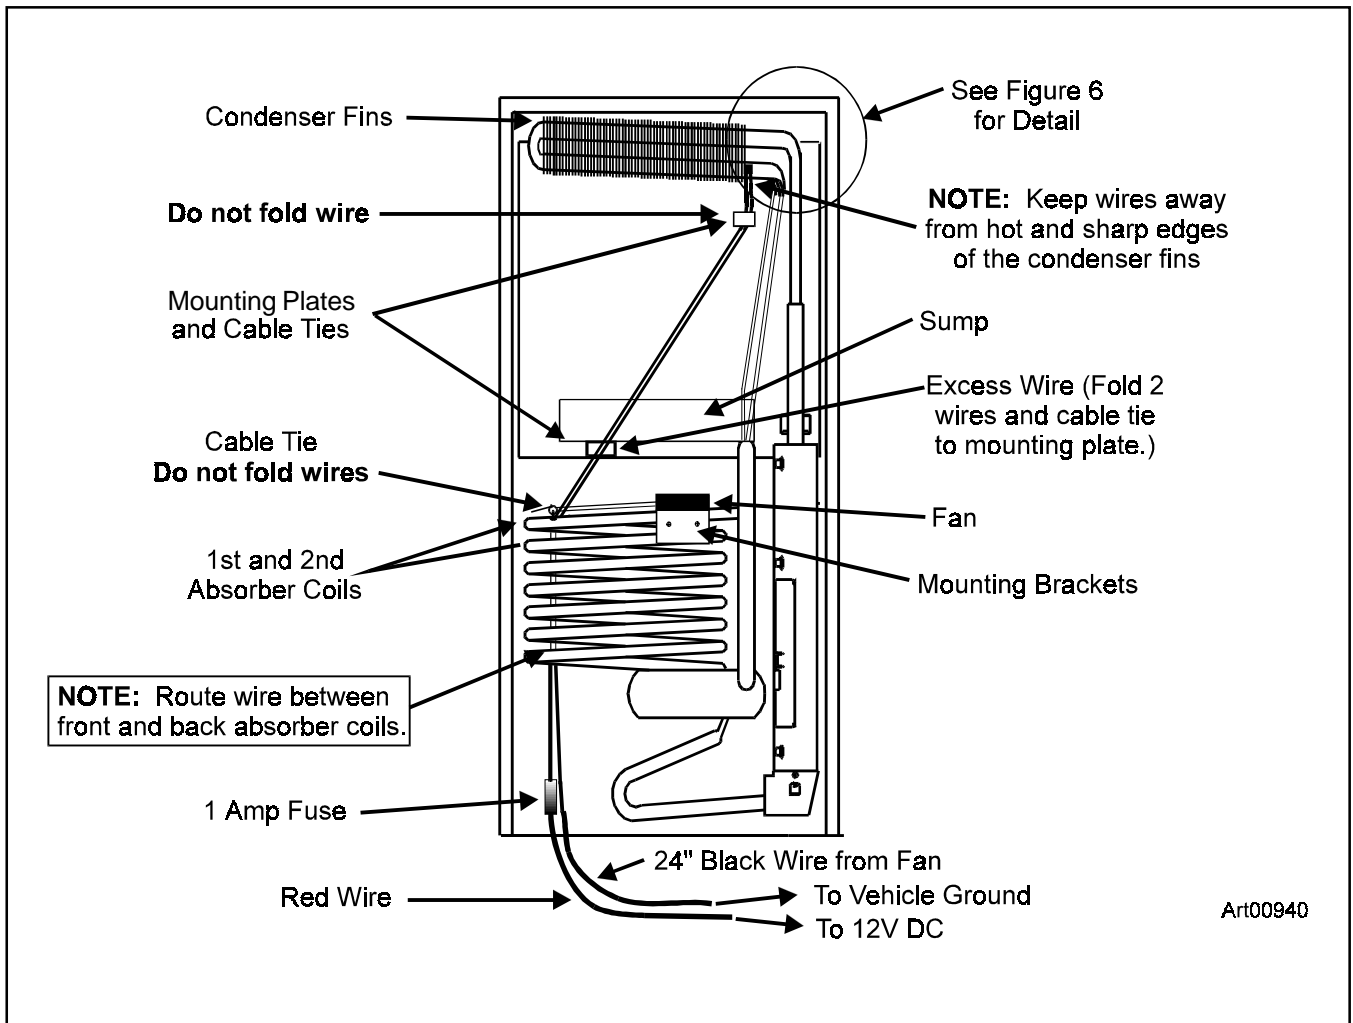

Figure 2
Figure 2 shows the back of the refrigerator and the location of the 1st and 2nd absorber coils. Also in Figure 2 are items installation and their approximate locations.
2. Position mounting bracket **B** (See Tools and Parts List, #J) around the front of the 1st and 2nd absorber coils. See Figure 2. This bracket has a wiring label on it. Push mounting bracket **B** and mounting bracket **A** together.
1. Viewing the refrigerator from the rear, mount the thermostat to the right condenser fin. Remove wires from the plastic bag. Untangle any wires that are connected to the thermostat and the fan. Align the holes of the thermostat with the left slot in the condenser fin. See Figures 2 and 6.
- Route the 6" red spliced wire and attached 60" red fused wire between the front and back absorber coils (Figure 2).
- Route the 6" black spliced wire and attached 24" black wire between the front and back absorber coils (Figure 2).
- Secure all wires so they do not contact hot surfaces or sharp edges on the condenser fins or absorber coils. Use cable ties and adhesive mounting plates (figure 2) as described below.
5. Pull the wires straight down from the thermostat and place a mounting plate about 12" down from the condenser so the wires do not touch the condenser or the vertical tubing. Secure the wires to the mounting plate with a tie wrap. Place the mounting plate under the sump and to the left of the fan (Figure 2). Fold the excess wire as shown. Tie the folded wires to the mounting plate under the sump with a cable tie to prevent the wires from moving by air flow. This also prevents excess wire from getting caught between the side of the refrigerator and the enclosure. Make sure the wires are pulled in tight between the tie wrap locations and that the tie wraps are firmly secured.